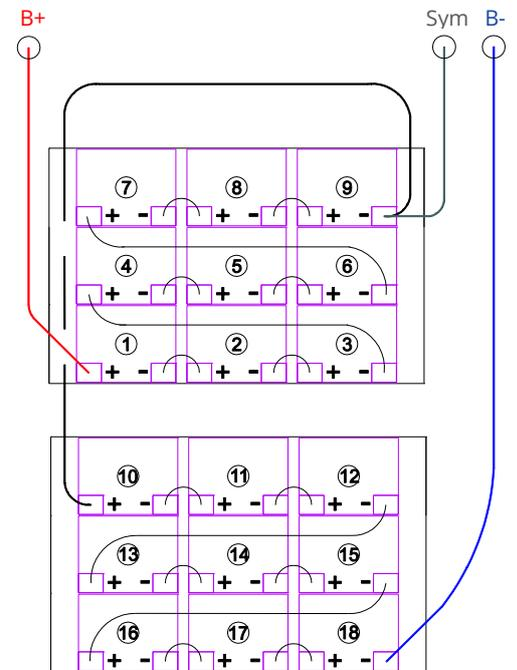

Figure 2: Wiring of the batteries top view
Make sure that the battery fuses F2/F3/F4 have been removed. Mount the batteries (18 pieces 12V each), connect them in series (see Figure 2) and connect the cables coming from the battery terminal (7) (observe correct polarity: red = B+/positive pole, blue = B-/negative pole, grey = symmetry). Incorrect polarity is acoustically indicated by a beep. The symmetry cable (grey) has to be connected to one of the ends of the connection cable between battery no. 9 and battery no. 10.